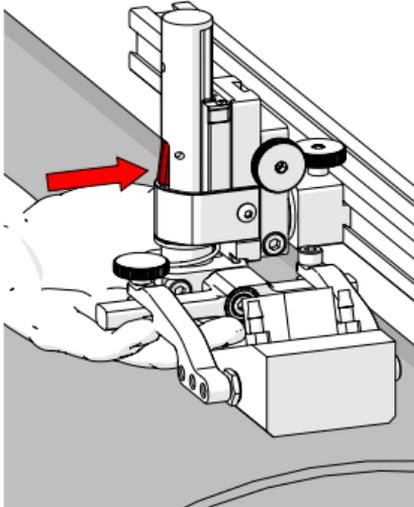
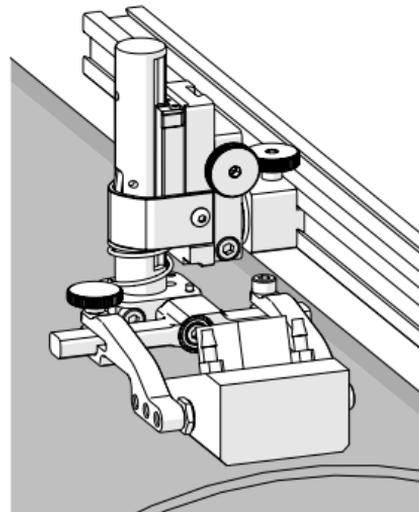

Fig. 72 - Press latch button
Fig. 73 - Lower toward scan surface
4. Lift the yoke slightly and press the latch button (Fig. 72), then slowly lower towards scanning the surface to apply spring pressure to the wedge (Fig. 73).